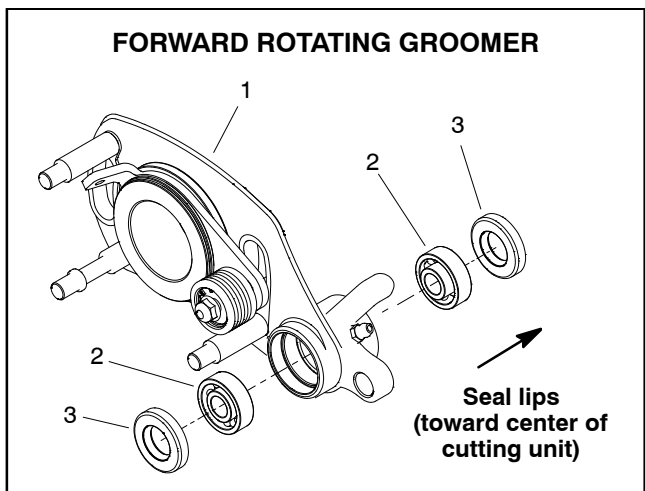

Figure 21
6. Remove grooming reel seals and bearings from RH drive plate and LH support plate assemblies (Figs. 21, 22 and 23). Discard all removed seals and bearings.